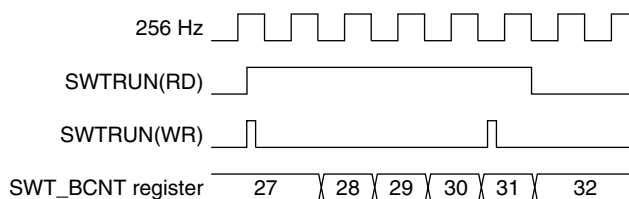

Figure 13.5.2 Run/Stop Control Timing Chart
- Figure 13.5.2 shows the Run/Stop control timing chart.